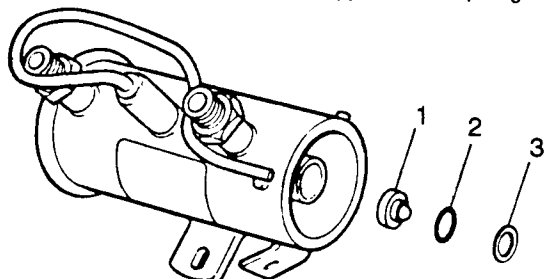

Fig C5.18
- (3) Refer to Fig C5.18. Fit the one-way valve (1), rubber seal (2) and plain washer (3) in that order into the pump body.